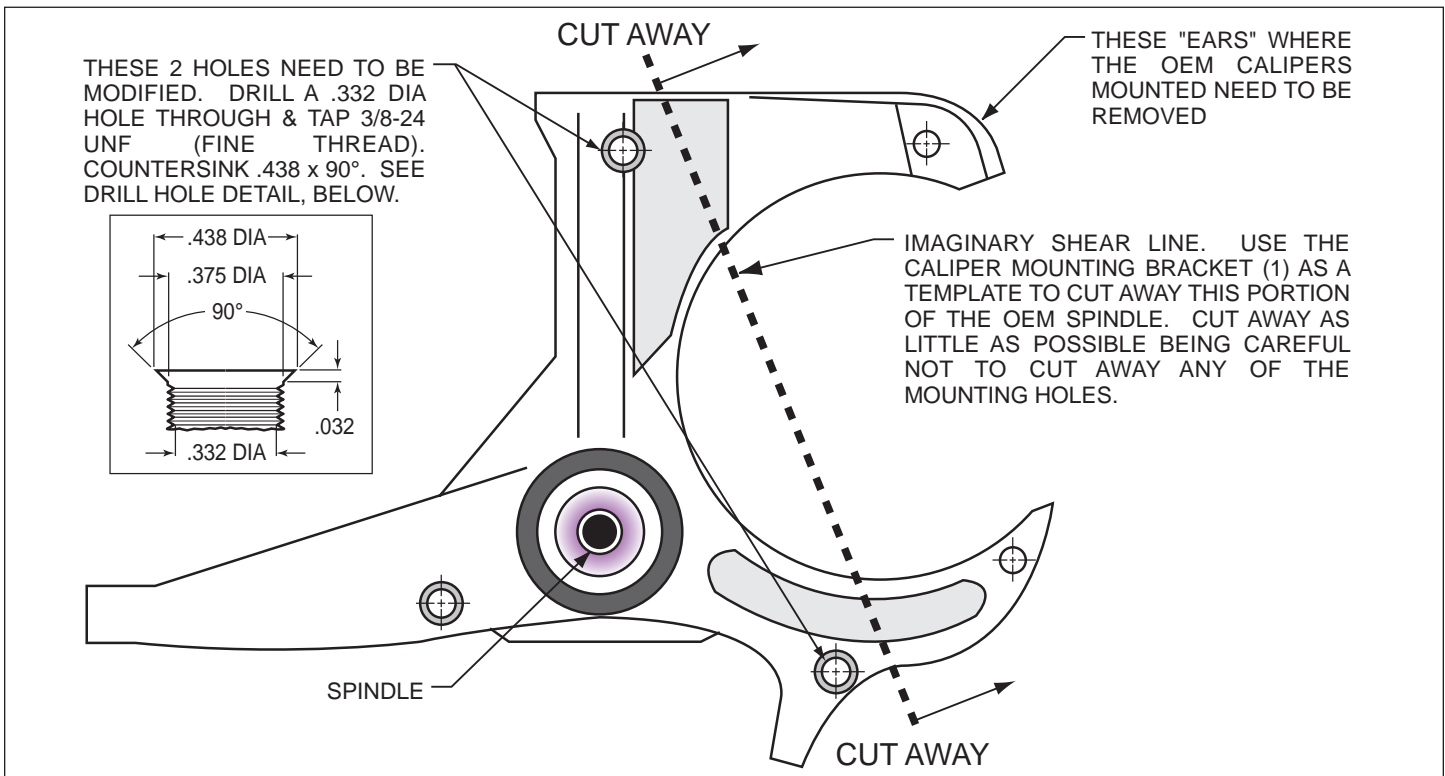
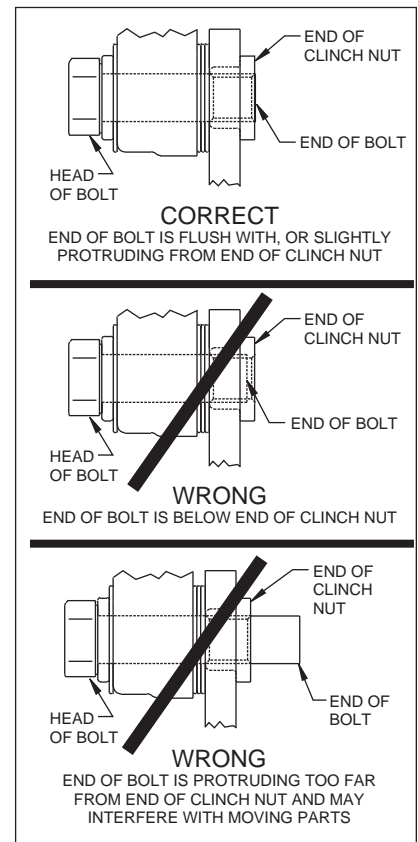

Figure 1. Steering Arm / Spindle Modifications
Figure 5.
These modifications should be performed by a qualified machinist. Refer to Figure 1 as necessary (numbers in parenthesis refer to the parts list on page four). Only one view of the steering arm/spindle is shown, but the modifications need to be performed on both steering arm/spindles.
- Mount the adapter/rotor assembly (8/9) to the hub (5) using bolts (11) (finger tight), as shown in Figure 1. Using an alternating sequence, remove bolts one at a time, apply red *Loctite*® 271 to the threads, and torque to 55 ft-lb.
- Pack the small outer bearing cone (12) with high temperature disc brake bearing grease and install into front of hub (5). Slide the hub/rotor assembly (5 and 9) with outer bearing cone (12) onto the spindle. Secure using stock washer, adjusting nut and nut locking device.
- Install the dust cap (15) onto the hub (5). Friction created by the o-ring (14) on the dust cap (15) keeps it from unscrewing. The O.D. of the existing spindle washer may be larger than the I.D. of the dust cap (15) not allowing it to seat against the hub face. Therefore, use the spindle washer (13) supplied with the kit instead of the stock washer.
- NOTE:** Please reference the caution statement at the beginning of the assembly instructions. Mount the caliper (16) onto the caliper mounting bracket (1) using washers (17) and bolts (18). Finger tighten. View the rotor (9) through the top opening of the caliper (16). The rotor (9) should be aligned in the center of the caliper (16). If not, adjust the caliper (16) by using 0.032 inch thick shims (19) placed between the caliper mounting bracket (1) and the caliper (16). Add as many shim washers (19) as necessary to achieve the correct alignment. Finger tighten and recheck alignment, adjust as necessary. **NOTE:** The end of the bolt must be flush with or slightly protruding from the head of the clinch nut. See Figure 5. Place spare shims (19) between washer and caliper mounting ear to achieve the proper mounting fastener configuration. Always use the same amount of shims on both the top and bottom caliper mounting bolts (18). Apply red *Loctite*® 271 to bolt threads (18) and torque to 40 ft-lb. Caliper mount bolts may be safety wired for additional security.
- Install the disc brake pads (20) into the caliper (16).